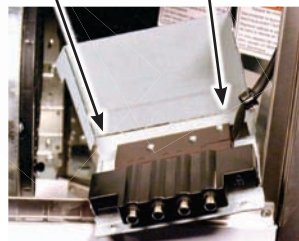

Figure 4
6. Pull the top of the box open slowly. The top of the box is attached by "sheet metal hinges" that will break easily, see figure 4.